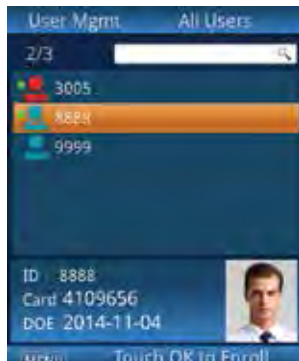

Fig 3.02-1
- From the Advanced Settings menu use the **▲** or **▼** keys to highlight the User Mgmt menu option. Touch **OK** to enter the menu. (Fig. 3.02-1)